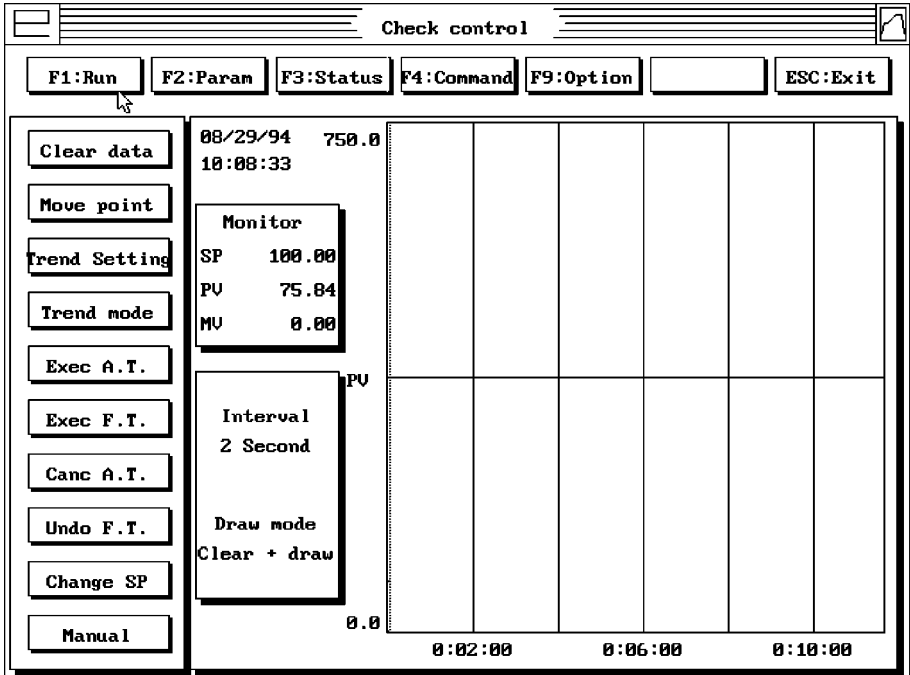

Figure 15
- 2. Select **Exec. F.T.** from the menu on the left side of the screen (Figure 15).